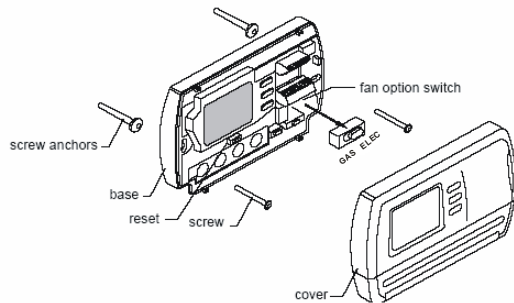

Figure 1
If a voltage spike or static discharge blanks out the display or causes erratic thermostat operation, you can reset the thermostat by pressing the reset button (See Figure 1). If the thermostat has power, and has been reset and still does not function correctly, contact your heating/cooling service contractor
8. Fasten the base loosely to the wall as shown in Figure 1, using two mounting screws. Place a level against the bottom of the base and adjust until level, then tighten the screws. (Leveling is for appearance only, and will not affect thermostat operation.)
Read the following information before setting the fan option switch (See figure 1). If you are unsure of your application, contact a qualified service person.